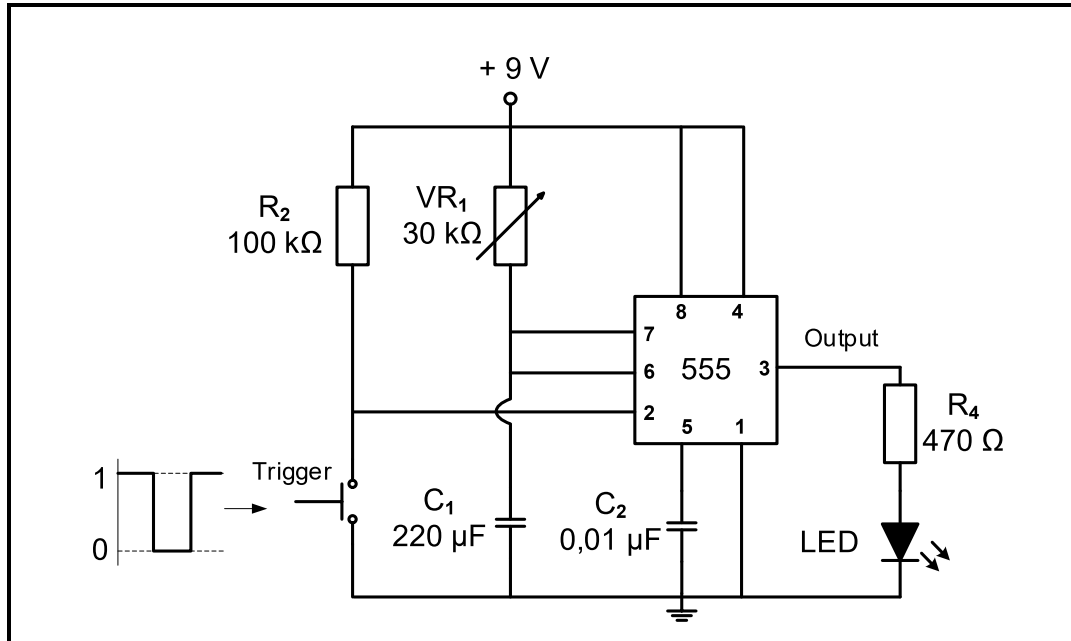

FIGURE 5.3: MONOSTABLE MULTIVIBRATOR CIRCUIT
5.3 Refer to FIGURE 5.3 below and answer the questions that follow.
- 5.3.2 Explain how the circuit in FIGURE 5.3 above can be improved to provide protection for pin 7 and pin 6. (2)